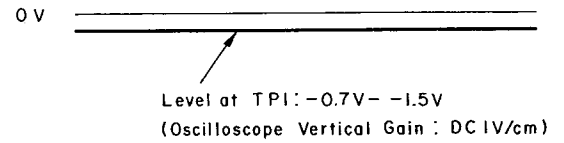

Fig. 4.6
Refer to Figs. 4.6 – 4.8.
- (b) Connect a Synchroscope to TP1 on the Main Logic P.C.B. Ass'y. Set the Synchroscope to DC mode and 1 V/division vertical gain. Check to insure that the minus level (-0.7 to -1.5 V) is observed on the Synchroscope as shown in Fig. 4.6.